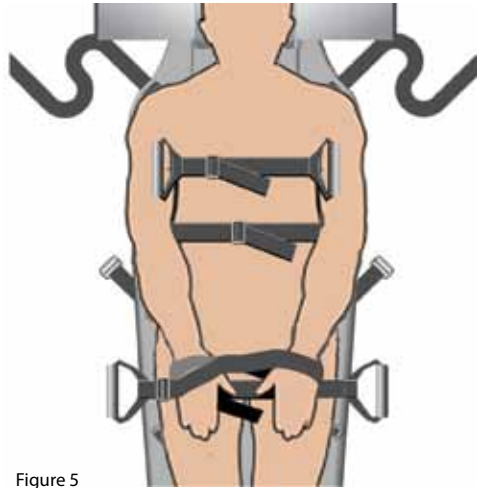

Figure 5
3. Next fasten and tighten the Hip strap. For an unconscious casualty, their hands may either be secured in their clothing or tied in place using the loose end of the hip strap as shown on Figure 5.